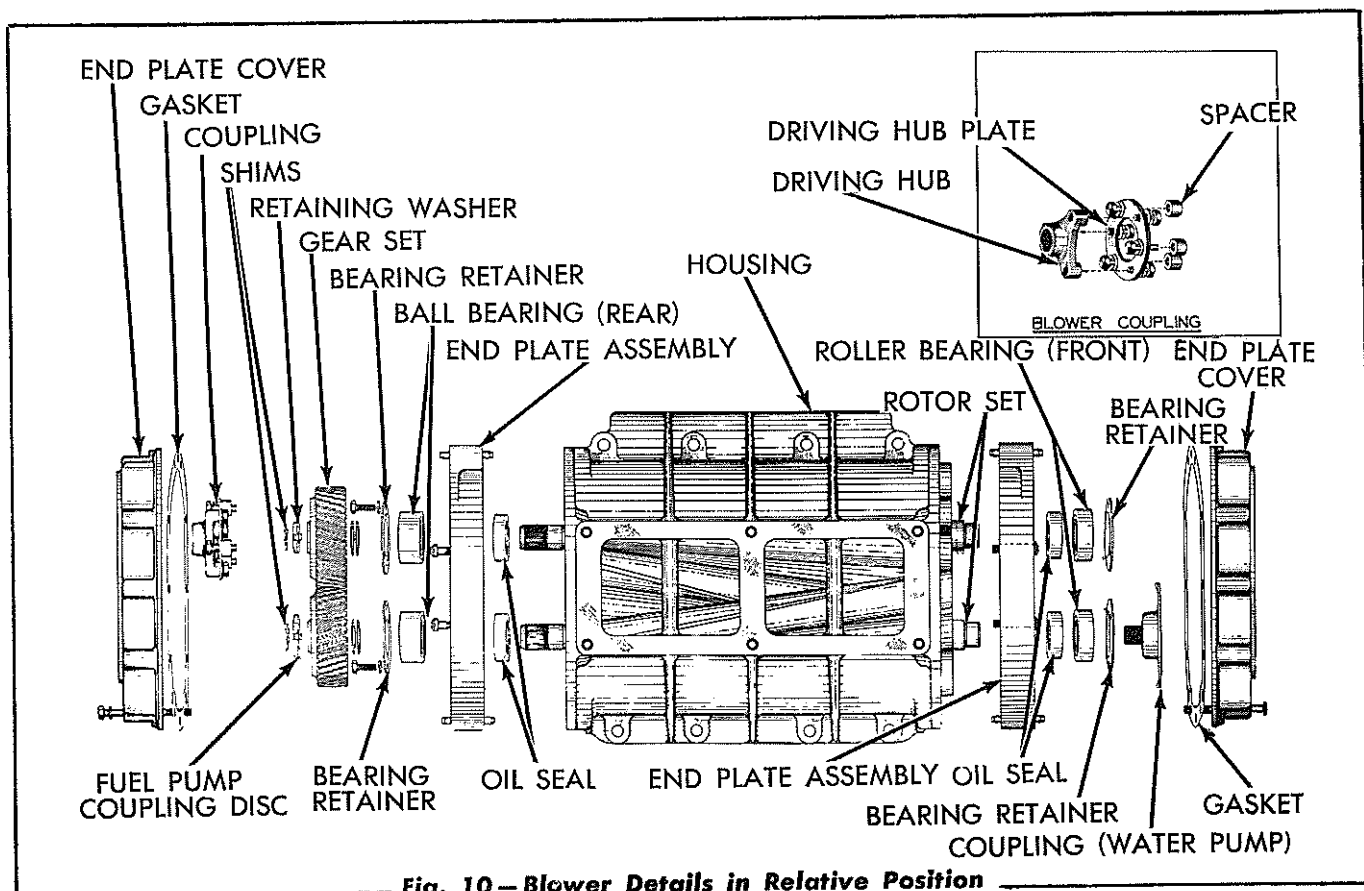

Fig. 10—Blower Details in Relative Position
- b. Direct a strong light into the rotor compartment and observe the end plates for a thin film of oil which will radiate away from a leaky oil seal. (See Fig. 10 for location of blower oil seals.) *CAUTION: Do not attempt this inspect when dust is blowing as there will be no air cleaner protection when the air inlet housing is removing from the blower.*
8. After the rotors have been properly timed and the gears have been tightened securely in place, install the rotor driving hub plate assembly (flexible type) on the upper gear as follows, (refer to Fig. 10):
- a. Place the two driving hub plates in position on the blower driving hub and install the three (3) attaching capscrews (5/16" NF x 3/4") with plain washers and